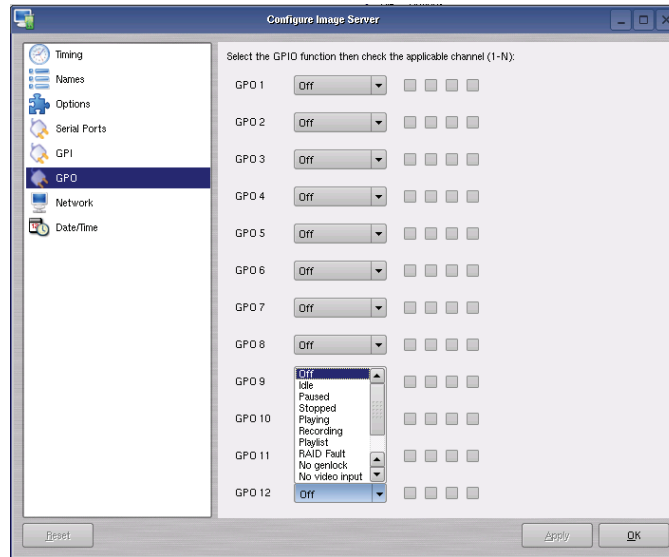

Figure 25 - GPO Configuration Screen
- A. Select **EDIT>CONFIGURE >GPO**. The screen of Figure 25 is displayed. GPO 1 through 12 are the 12 triggerable outputs. The checkboxes to the right of each selection represent channel 1, 2, 3 and 4. GPO 9 is shown with the trigger option pulldown expanded.